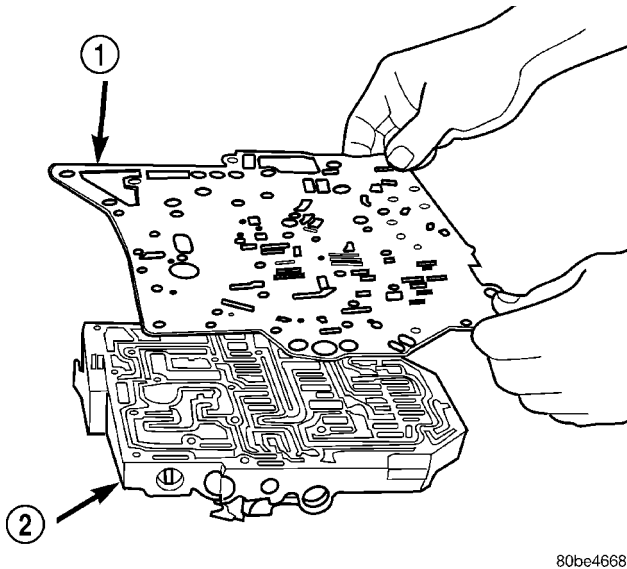

Fig. 350 Remove Separator Plate
(10) Remove separator plate (Fig. 350).